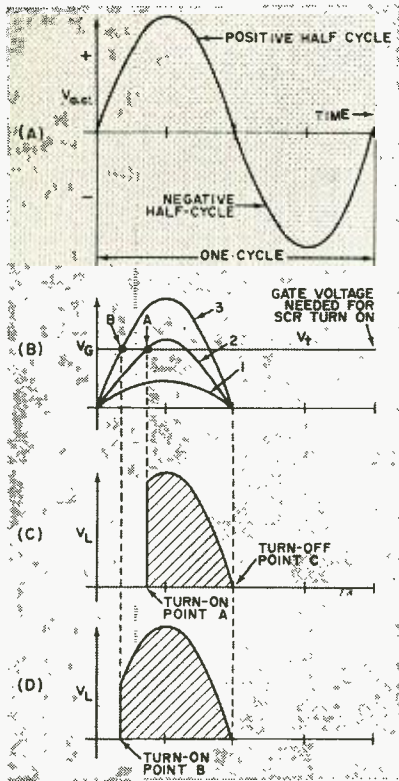

Fig. 3. These waveforms should be seen on an oscilloscope connected to the test circuit. See text for explanation of A - D.
**Test Circuit.** You can put together the test circuit shown in Fig. 2 using any SCR rated at one-half ampere or more, and having a reverse breakdown voltage rating of at least 250 volts. Although an oscilloscope is required to observe the waveforms within the circuits, Fig. 3 will serve as a substitute for the purposes of this article. Use a 1:1 line isolating
Gate circuit diode *D1* rectifies the applied a.c. voltage and produces a half-wave d.c. voltage across resistor *R2* and potentiometer *R1*. A waveform similar to waveform 3 in Fig. 3(b) should be seen between the junction of *R1* and *R2* and point "Z." The waveform (and voltage) at the rotor of *R1* is zero, and, as the rotor is moved towards the *R1-R2* junction, the waveform and voltage increase as shown in waveforms 1 and 2 of Fig. 3(b). In Fig. 3(b), the voltage level marked *Vt* is that voltage required to turn on the gate of the SCR. As *R1* is advanced, the a.c. first reaches point "A." At this point, the SCR fires (turns on) and the output waveform then looks like Fig. 3(c). Note that the SCR turns itself off when the applied a.c. waveform reaches zero on its cycle.
When *R1* is advanced further, the SCR is turned on earlier in the cycle (reaches point "B") and the resulting waveform remains on longer as shown in Fig. 3(d). Observe then, that the earlier the SCR is turned on during each cycle the more power is available at the output. This is shown by an increase in the meter reading (or brightening of the bulb), and a larger area of the sine wave as seen on the scope.